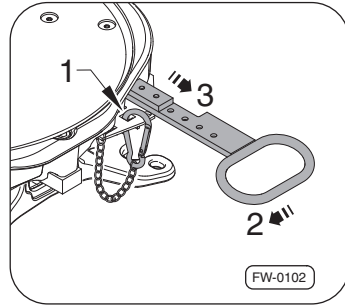

Fig. 7 · Unclip the snap hooks
1. Unclip the snap hooks Fig. 7, –arrow 1– and swivel the release handle to the left –arrow 2–.